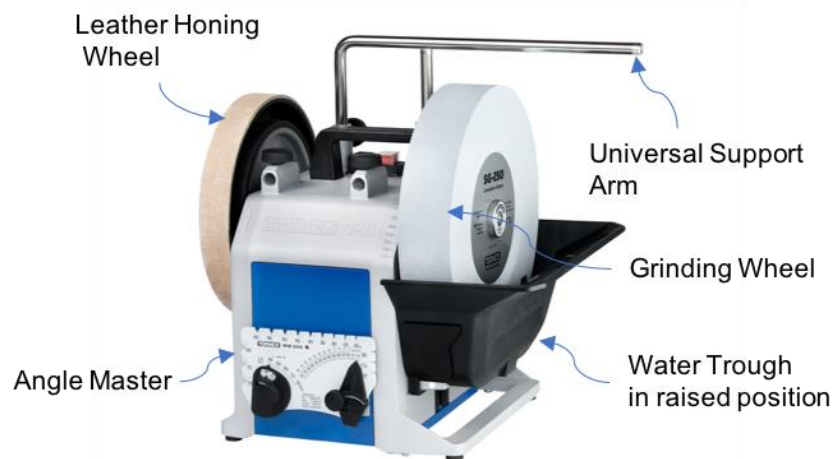

Fig 1 Some Features of Tormek Grinders
3. Make sure the Universal Support Arm is mounted in the vertical position (See Fig 1).